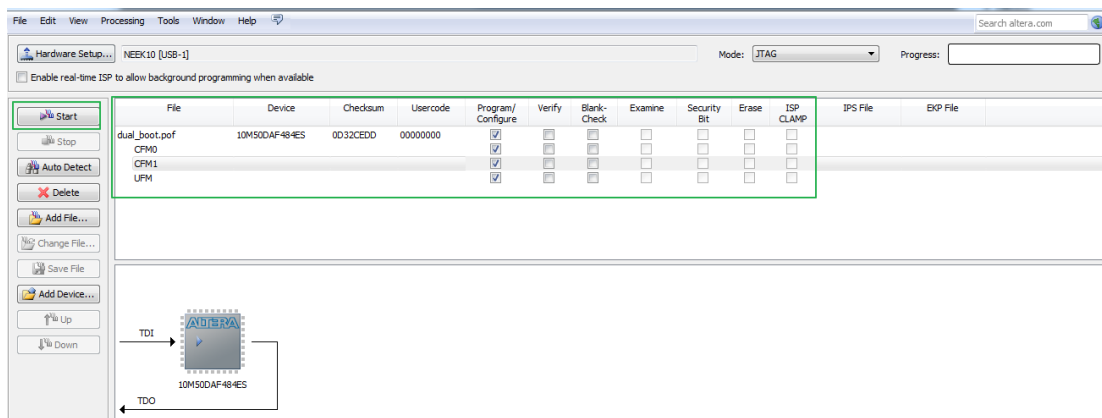

Figure 7-8 Download the pof
- The final step is to download the pof into MAX10 FPGA. Open the programmer tool and add the dual_boot.pof as shown in **Figure 7-8**. Click Start button to program the device when the hardware is set OK.